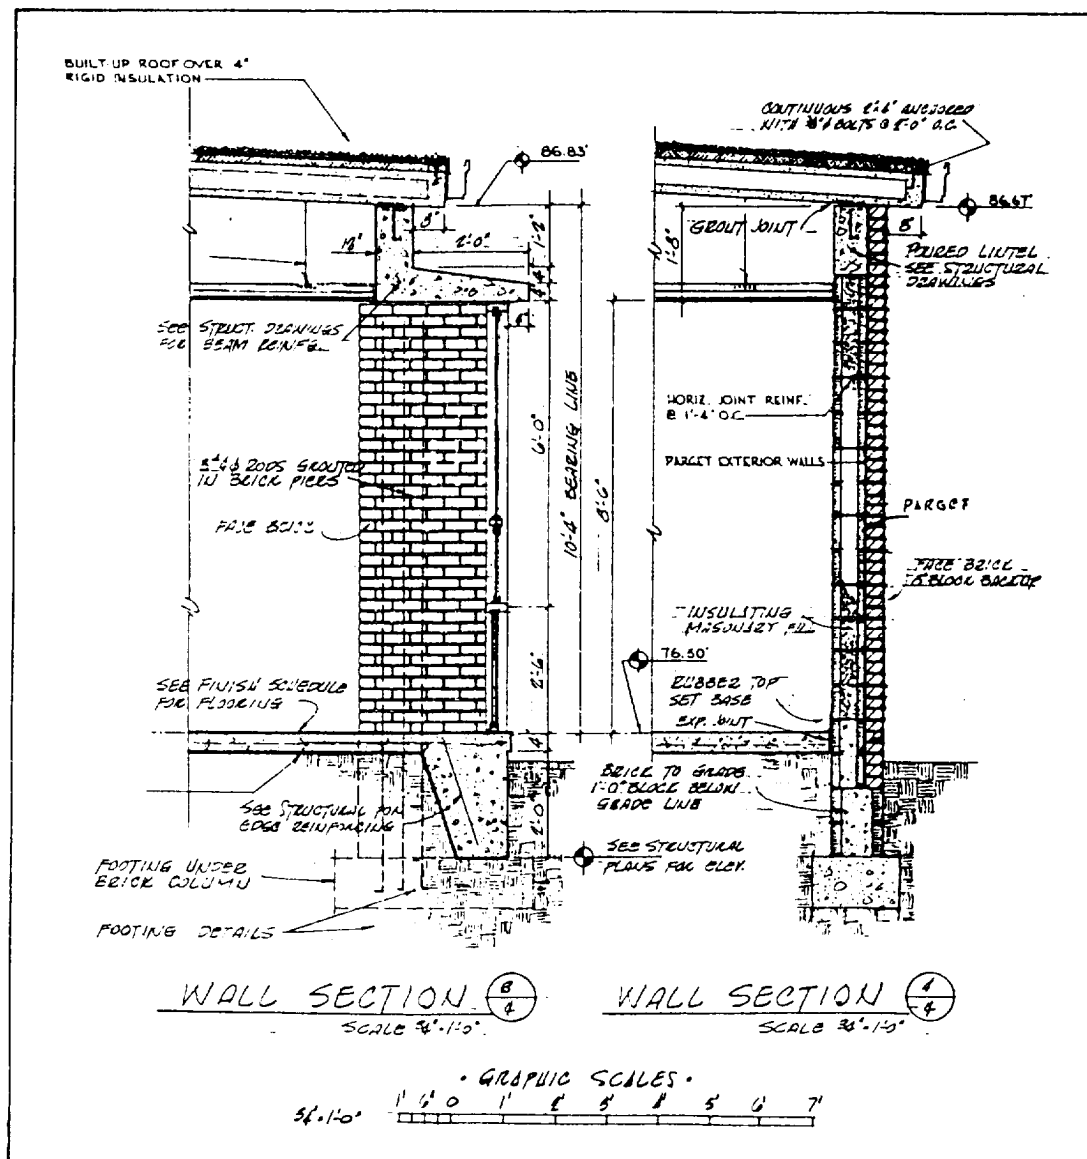

Figure 10-22. Examples of wall sections.
All properly prepared sections are important to those responsible for constructing a building. Perhaps the most important of all are WALL SECTIONS, such as those shown in figure 10-22. These sections, commonly drawn at a scale of 3/4 in. = 1 ft, and normally located in the structural division, provide a wealth of information that is necessary to understand the structural
1. After having selected the appropriate scale, lay out the first section lightly. Next, lay out all the other sections, allowing enough space between them for notes and dimensions. Align the sections so that the same elevation is maintained and the sections relate to one another, as shown in figure 10-22. Again, maintain enough clearance for subtitles and scale and enough room for your title block.